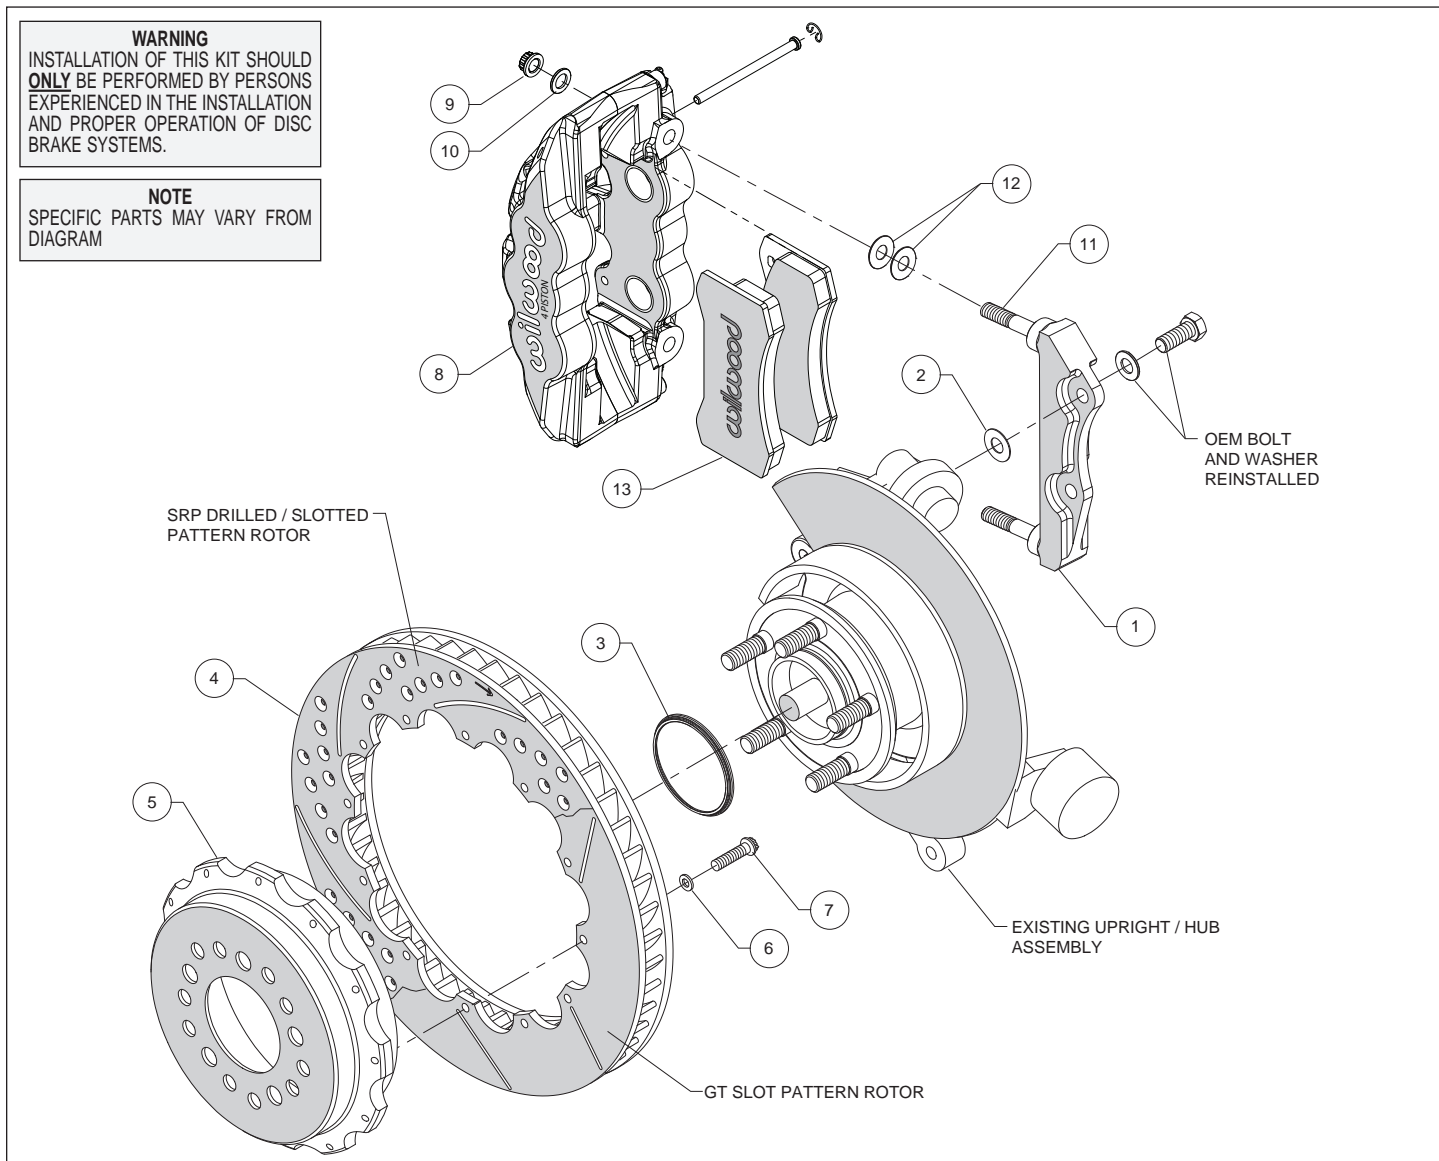
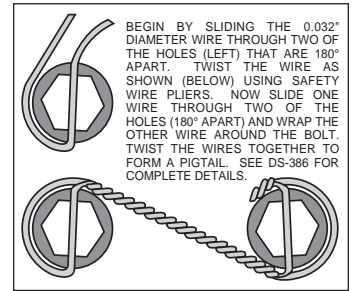

Figure 1. Typical Installation Configuration
Figure 3. Safety Wire Diagram
Assembly Instructions (numbers in parenthesis refer to the parts list and Figure 1 on the preceding pages):
- The caliper mount bracket (1) should initially be installed with clean, dry threads on the mounting bolts. Orient the bracket as shown in Figure 1 and install using the saved OEM caliper mount bolts and washers. Initially place one .033" thick shim (2) on each bolt between the bracket and upright, Figure 1. Temporarily tighten the mounting bolts. **NOTE:** *The bracket must fit squarely against the mount bosses on the upright.* Inspect for interference from casting irregularities, machining ridges, burrs, etc. Later, after the caliper alignment has been checked, the mount bolts will be secured using red *Loctite*® 271.
- Orient the rotor (4) and the hat (5) as shown in Figure 1 and Photo 1. Attach rotor to hat using bolts (7) and washers (6). Using an alternating sequence, apply red *Loctite*® 271 to the threads and torque bolts to 155 **in-lb**. For an added measure of security, the bolts may be safety wired using standard 0.032 inch diameter stainless steel safety wire as shown in Figure 3. Please refer to Wilwood's data sheet DS-386 (available at www.wilwood.com/Pdf/DataSheets/ds386.pdf) for complete safety wire installation instructions.
- Slide the rotor registration adapter (3) onto the axle register on the axle hub with the smaller O.D. facing outward, Photo 2. Slide the hat/rotor assembly onto the axle hub. **NOTE:** *The hat must fit flush against the axle hub flange or excessive rotor run out may result.* Install three lug nuts (finger tight) to keep the hat/rotor assembly in place while continuing with the installation.
- Lubricate the caliper mounting studs (11) with lightweight oil. Initially place two .030" thick shims (12) on each stud between the caliper and the bracket, as shown in Figure 1 and Photo 3. Mount the caliper (8) onto the bracket (1) using lock nuts (9) and washers (10), Figure 1. Temporarily tighten the lock nuts and view the rotor through the top opening of the caliper. The rotor should be centered in the caliper, Photo 4. If not, adjust by adding or subtracting shims (2) between the bracket and the upright. Always use the same amount of shims on each of the two mounting bolts. Once the caliper alignment is correct, remove the bracket mounting bolts one at a time, apply red *Loctite*® 271 to the threads, and torque to 65 ft-lb.
- Remove the two pad retaining pins from the caliper (8) by carefully popping out the pin retaining clips and sliding out the pins. Insert the brake pads (13) into the caliper from the bottom, Figure 1 and Photo 5. With the friction material facing the rotor, secure the brake pads in place with the pad retaining pins and clips, Photo 6. Reinstall the caliper onto the caliper mounting bracket and temporarily tighten the lock nuts. Check that the top of the brake pad is flush with the outside diameter of the rotor, Photo 8. If not, adjust by adding or subtracting shims (12) between the caliper and the bracket. After the caliper pad height is set, torque the caliper lock nuts (12) to 47 ft-lb.